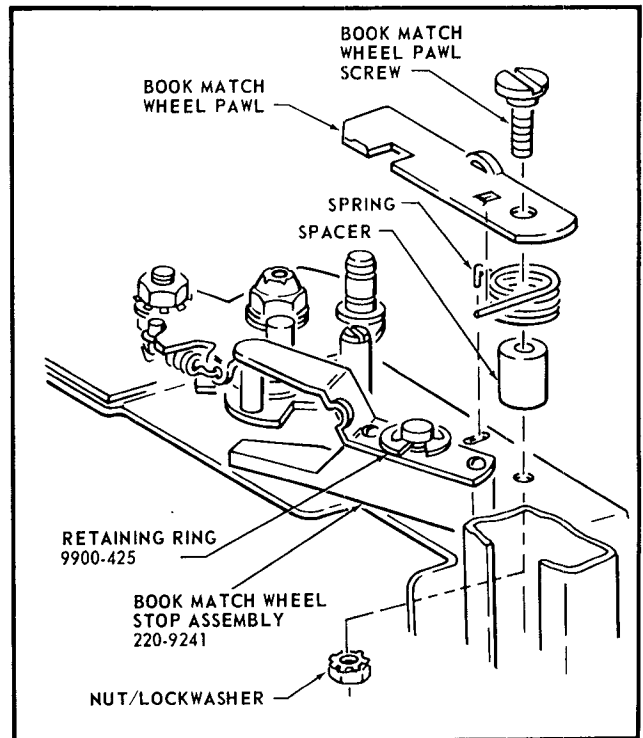

FIGURE 5
16. Install Book Match Wheel Stop Assembly, part number 220-9241, on the Book Match Magazine Stop Stud. See Figure 5.